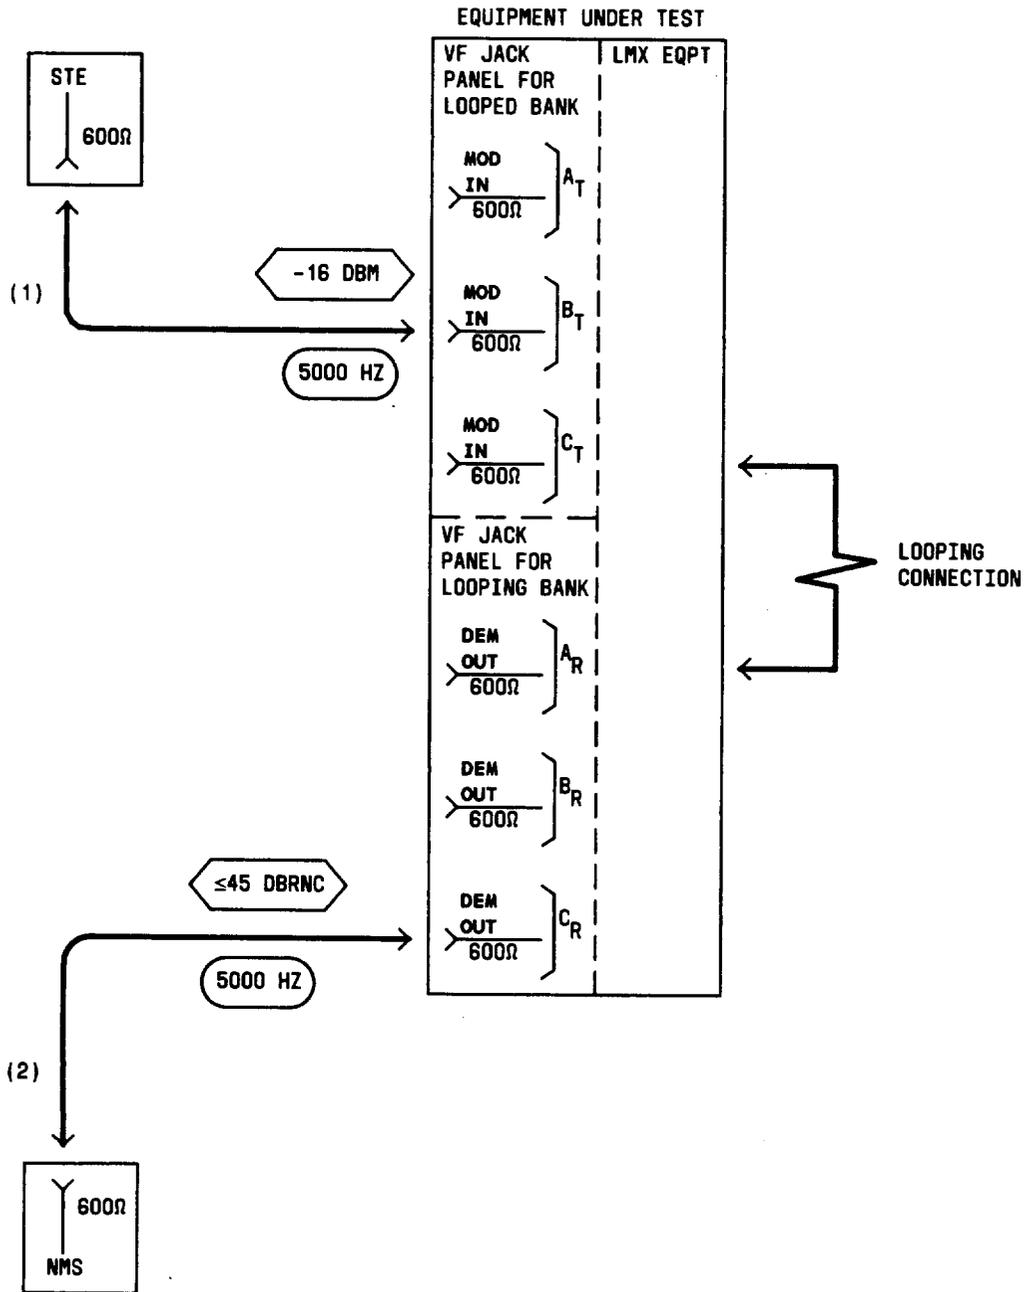

Fig. 17—Patching Diagram—Crosstalk Test—Equal-Level Looping—Upper Adjacent Channel (5000 Hz)
27	Connect the STE to the MOD IN jack for Test A in looped -bank Channel B T [Table H and patch (1), Fig. 17].
28	Connect the NMS to the DEM OUT jack for Test A in looping -bank Channel C R [Table H and patch (2), Fig. 17].
32	Remove patches (1) and (2), Fig. 17.